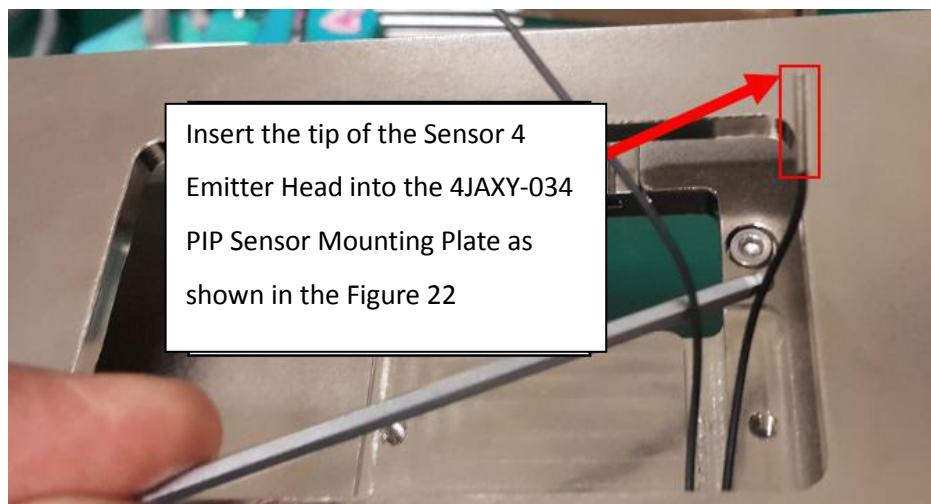
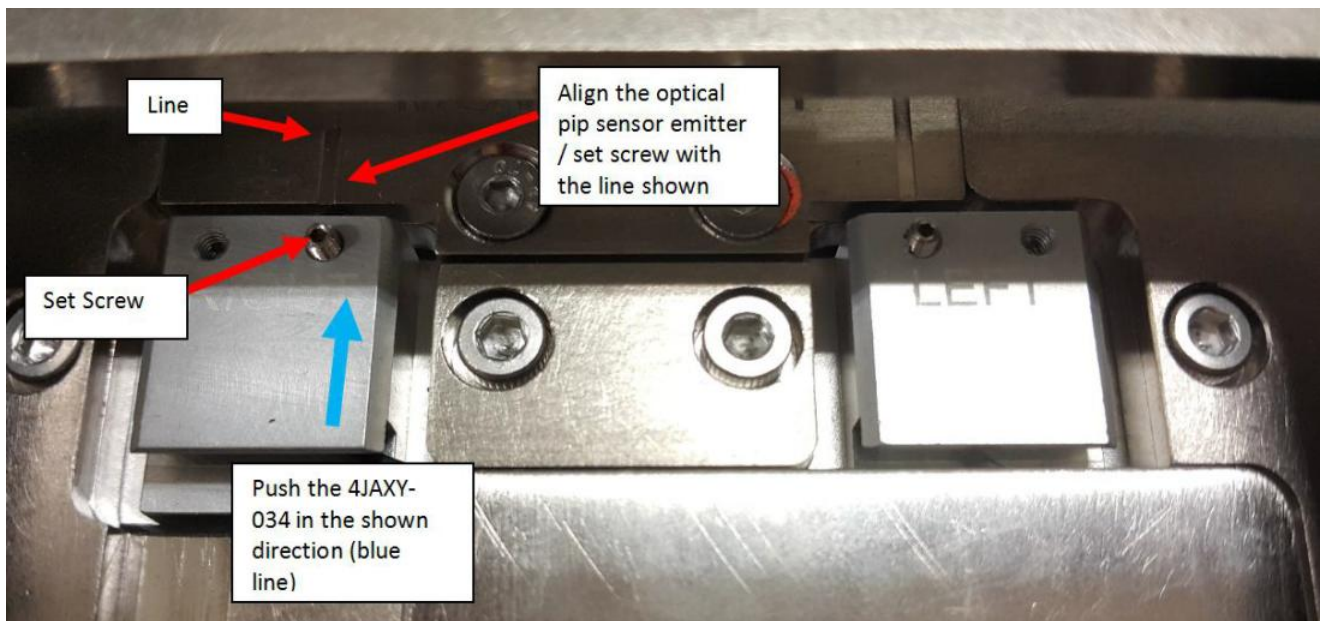

Figure 22 Sensor Emitter Head
Figure 25 4JAXY-058
2. For emitter installation, insert Sensor 4 Emitter Head into 4JAXY-058 (PIP Sensor Mounting Plate 2) as shown from Figure 22 to Figure 25
3. Push the 4JAXY-058 PIP Sensor Mounting Plate 2 to maximum direction (Blue Arrow) and align with the line as shown in the Figure 25.